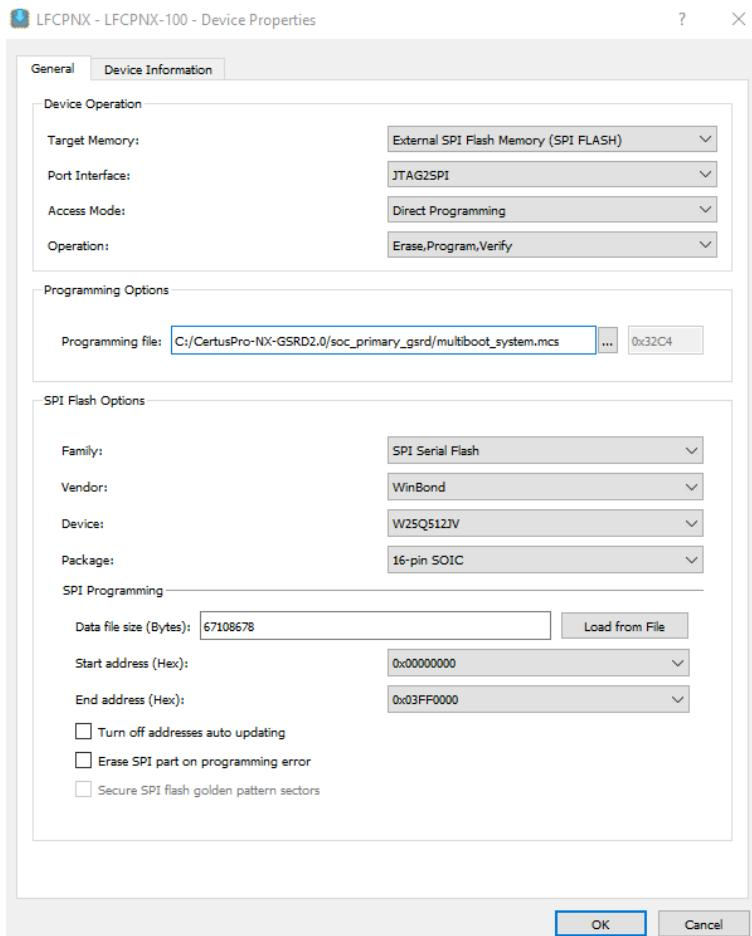

Figure 7.33. Device Properties Window to Setup MCS Programming File
- To program the **multiboot_system.mcs** file, locate the file in the executables folder that you downloaded and add the file in the Programming file area. The Start Address and End Address are allocated automatically. Confirm the settings as shown in Figure 7.33.